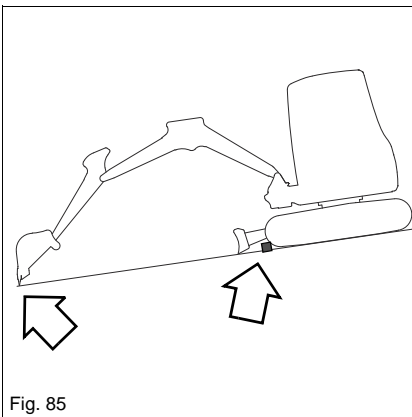

Fig. 85
- Secure the tracks accordingly (chocks, blocks, for example) as shown in Fig. 85.